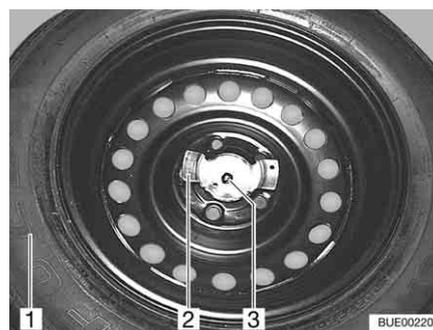

Fig. 229 Spare wheel fixture
- Unscrew both nuts (Fig. 229,2 and 3).
- Remove the spare wheel (Fig. 229,1) from the spare wheel support.